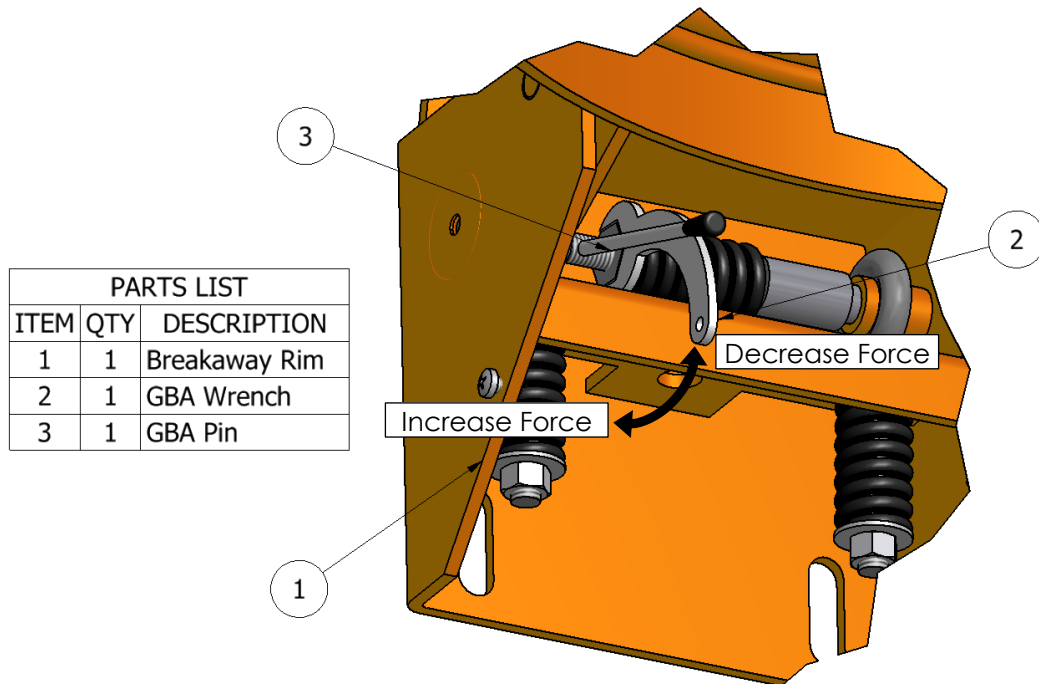

Figure 6-1: Adjust spring tension.
2. Insert the supplied pin into the hole in the spring adjust mechanism. Use the supplied wrench to adjust the spring tension nut as shown in Figure 6-1.